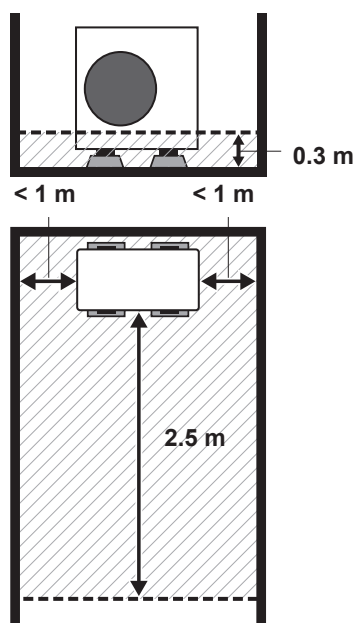

Fig. 2-7
- Where the distance between both sides of the unit and the wall is less than 1 m, define the protective zone as follows: (Fig. 2-7)